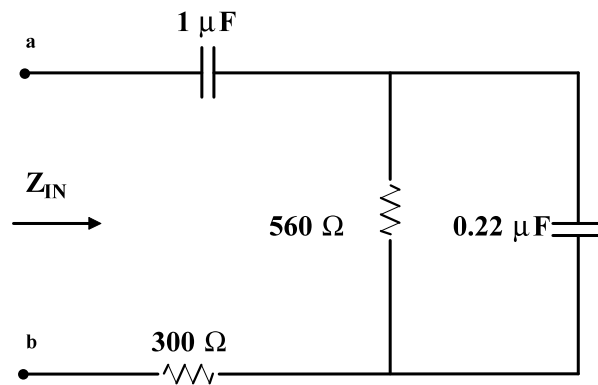

Figure 4.18 Circuit for determining impedance, Part 2PE.
**Part 2 PE:** Circuit impedance. Consider the circuit of Figure 4.18.